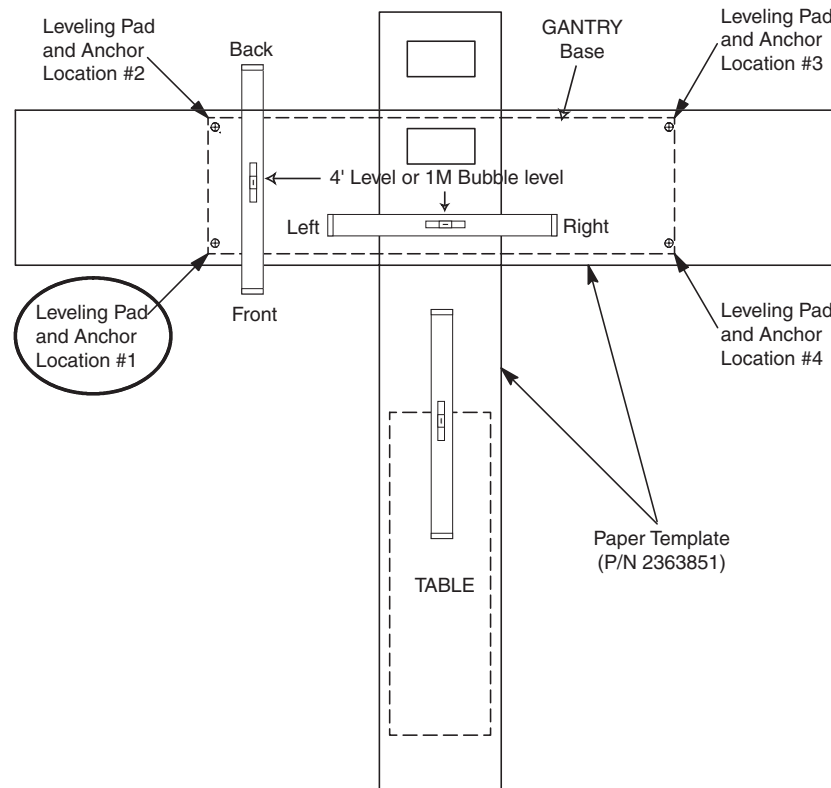

Figure 2-1 Hole Locations
- 4.) Check the level of the floor (See Figure 2-1) across the templates.
☐ ☐	Have the following requirements in Figure 2-1 reviewed by your contractor